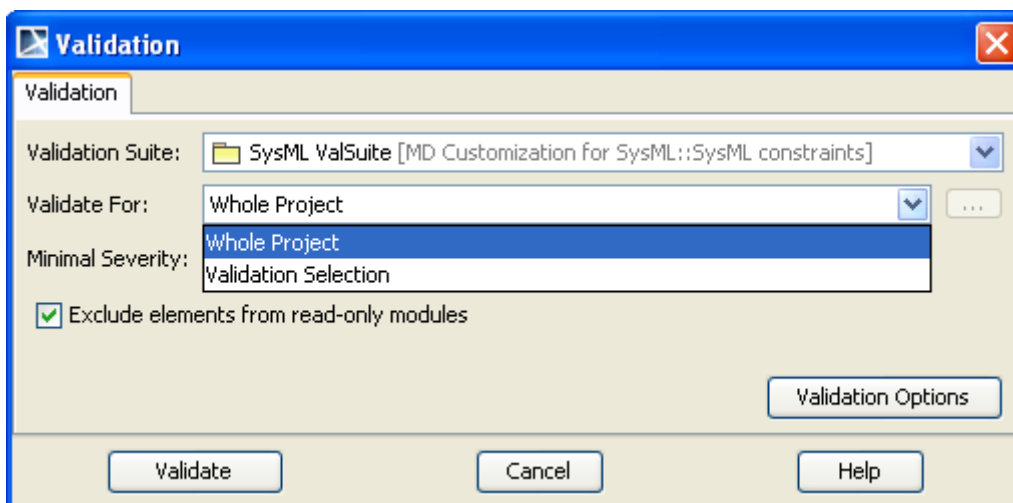

Figure 203 -- Validation Element Selection
- **Whole Project** to validate the entire SysML project (Figure 203), or
- **Validation Selection** to validate only specific elements in that SysML project (Figure 203).
6. Click the **Validate** button in the **Validation** dialog (Figure 203) once elements have been selected to be validated. When the validation process is completed, the results of the validation will be displayed in the **Validation Results** window, usually located at the bottom of the MagicDraw window (Figure 205).